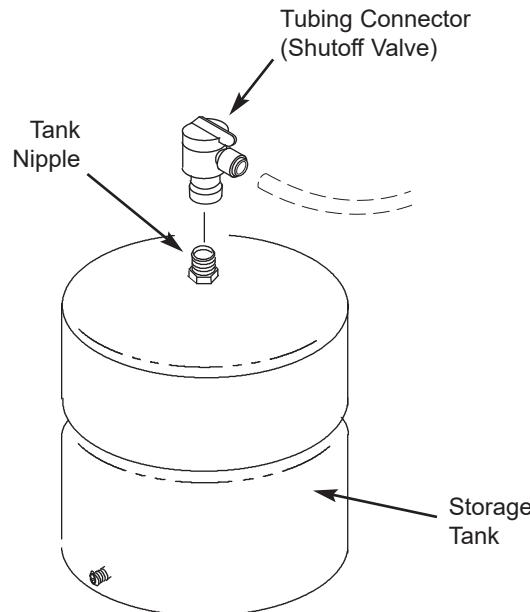

FIG. 13
1. Apply thread sealing tape (2 wraps clockwise) to the threads on the nipple at the top of the tank. See Fig 13.
2. Locate the tubing connector (shutoff valve). See Fig. 13. Tighten the tubing connector onto the tank nipple 7-8 full turns, being careful not to cross thread or overtighten.